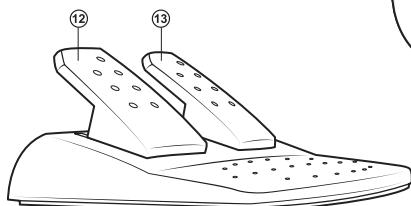

Fig. 3. Foot pedal unit
- Connect pedal unit to the device (Fig. 3) via cable of the pedal unit to RJ-11 jack ⑭, then connect USB cable ⑯ of the device to the USB port of the computer.